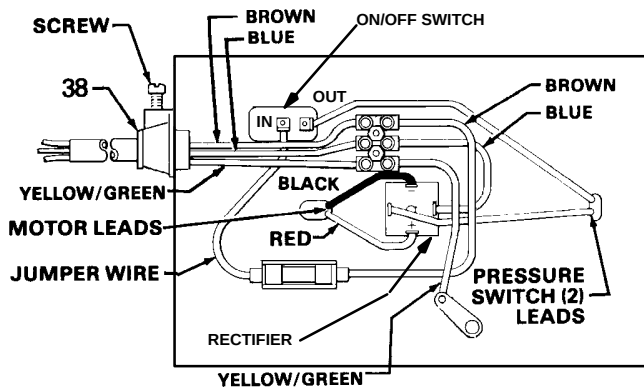

Fig 1
7. Guide the pressure switch leads through the base. Connect a lead to the power-out side of the ON/OFF switch and a lead to an unmarked terminal on the rectifier. See Fig 1.